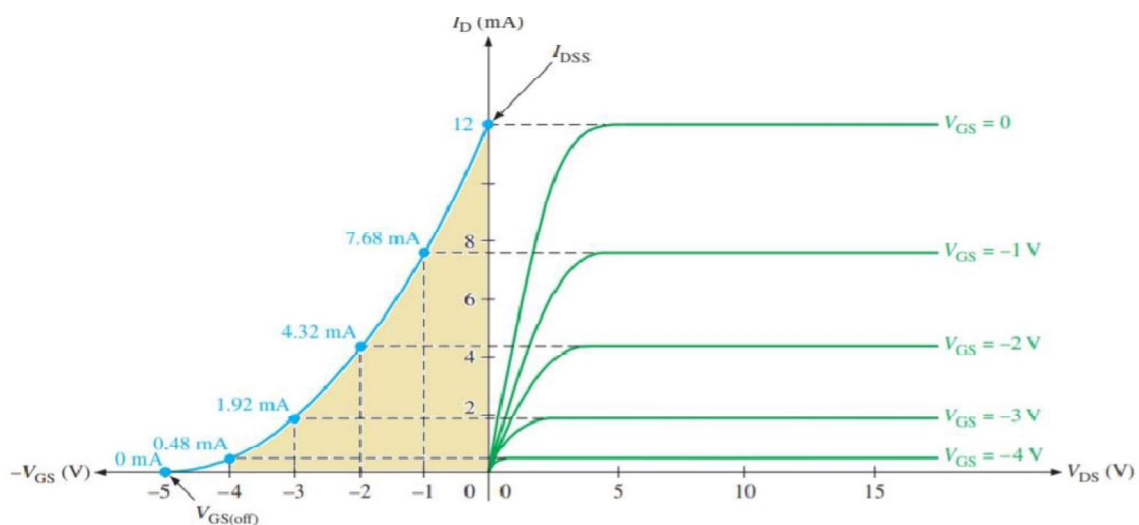

Fig. 4.4 Transfer Characteristics of JFET
Figure 4.4 shows typical transfer characteristics of a low-power n-channel JFET, and illustrates some important features of this type of device. These dopings make a P-N junction in the middle part of the block. We can also form a P-N junction by joining a p-type semiconductor and n-type semiconductor together with a special fabrication technique. The terminal connected to the p-type is the anode. The terminal connected to the n-type side is the cathode.
- Note in Figure 4.4 that, for each V_{GS} value, drain current I_D rises linearly from zero as the drain-to-source voltage (V_{DS}) is increased from zero up to some value at which a ‘knee’ occurs on each curve, and that I_D then remains constant as V_{DS} is increased beyond the knee value. Thus, when V_{DS} is below the JFET’s knee value, the drain-to-source terminals act as a resistor.
- Note in Figure 4.4 that when V_{DS} is above the knee value, the I_D value is controlled by the V_{GS} value and is almost independent of V_{DS} , i.e., the JFET acts as a voltage-controlled current generator. The JFET can be used as a fixed-value current generator by either tying the gate to the source, or by applying a fixed negative bias to the gate. Alternatively, it can (when suitably biased) be used as a voltage-to-current signal amplifier.